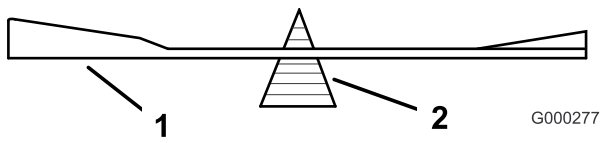
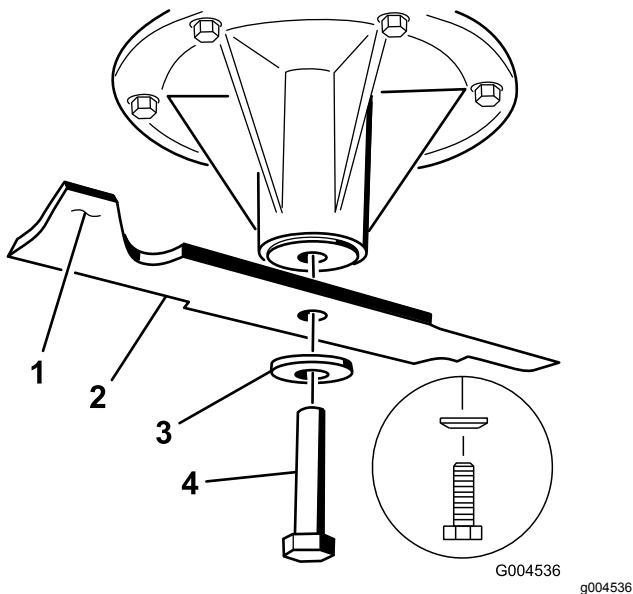

Figure 103
Figure 104
- Check the balance of the blade by putting it on a blade balancer (Figure 103). If the blade stays in a horizontal position, the blade is balanced and can be used. If the blade is not balanced, file some metal off the end of the sail area only (Figure 104). Repeat this procedure until the blade is balanced.
1. Install the blade onto the spindle shaft (Figure 104).
2. Install the spring disk and the blade bolt. The spring disk cone must be installed toward the bolt head (Figure 104). Torque the blade bolt to 115 to 150 N-m (85 to 110 ft-lb).